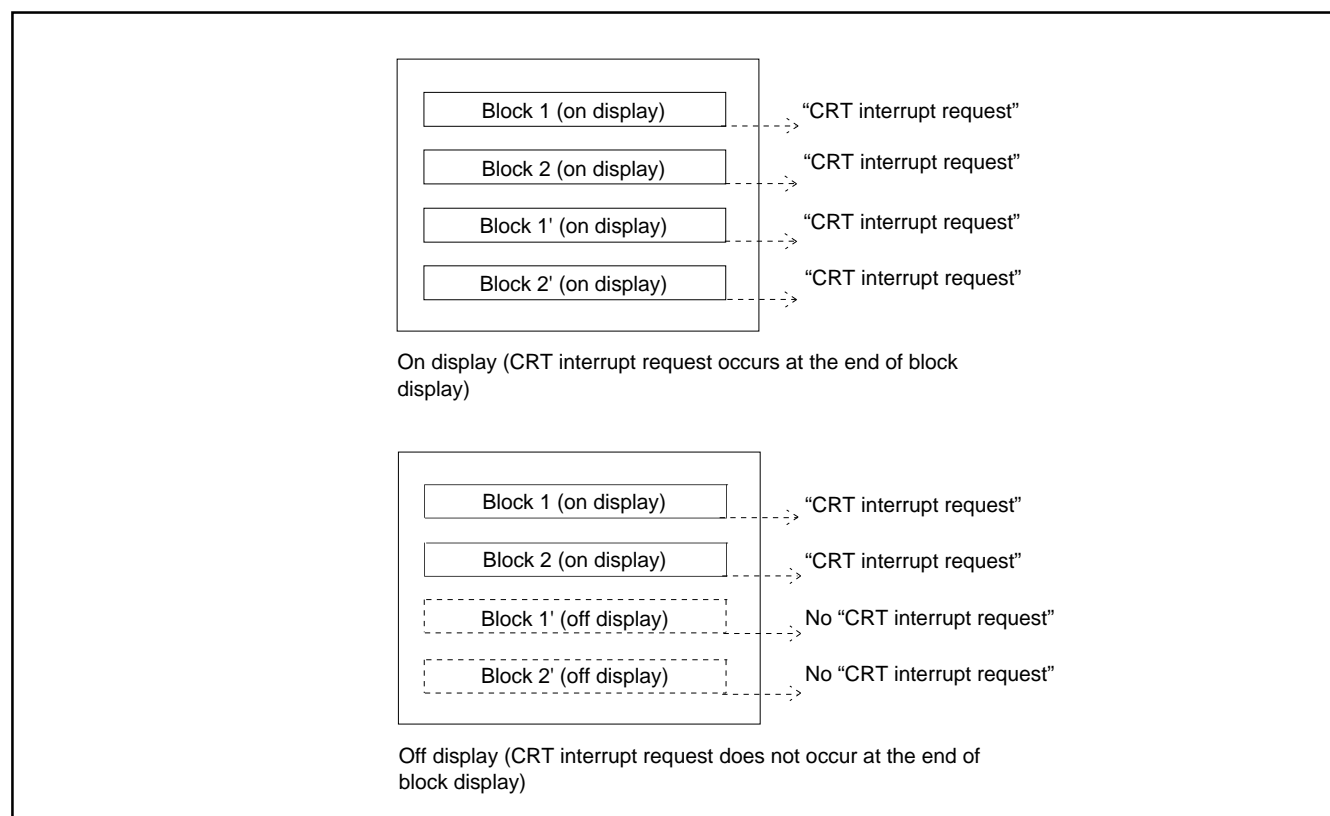

Fig. 47. Timing of CRT Interrupt Request
**Note:** A CRT interrupt does not occur at the end of display when the block is not displayed. In other words, if a block is set to off display with the display control bit of the CRT control register (address 00EA16), a CRT interrupt request does not occur (refer to Figure 47).